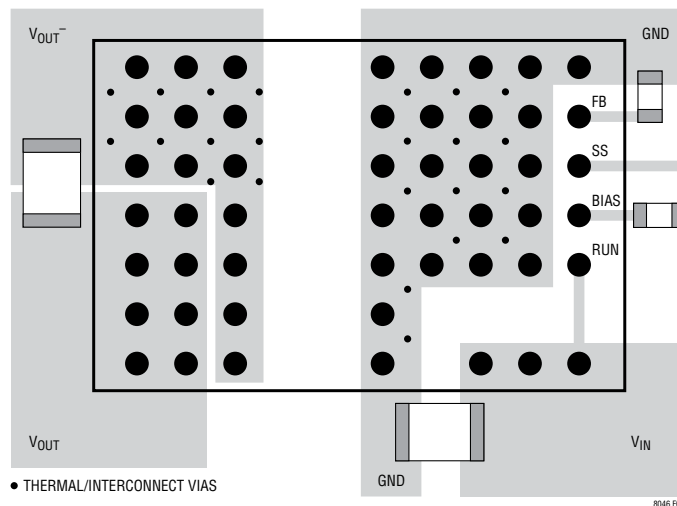

Figure 1. Layout Showing Suggested External Components, Planes and Thermal Vias
Figure 1 for a suggested layout. Ensure that the grounding and heat sinking are acceptable.
6. Use vias to connect the GND copper area to the board's internal ground planes. Liberally distribute these GND vias to provide both a good ground connection and thermal path to the internal planes of the printed circuit board. Pay attention to the location and density of the thermal vias in Figure 1. The LTM8046 can benefit from the heat sinking afforded by vias that connect to internal